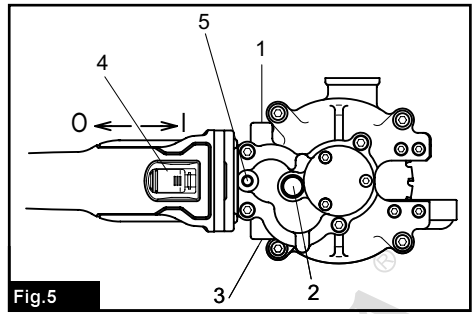

Fig. 5
► Fig. 5: 1. Handle Position (parallel / left side) 2. Lock Button 3. Handle Position (parallel / right side) 4. Switch 5. Handle Position (vertical / upper side)